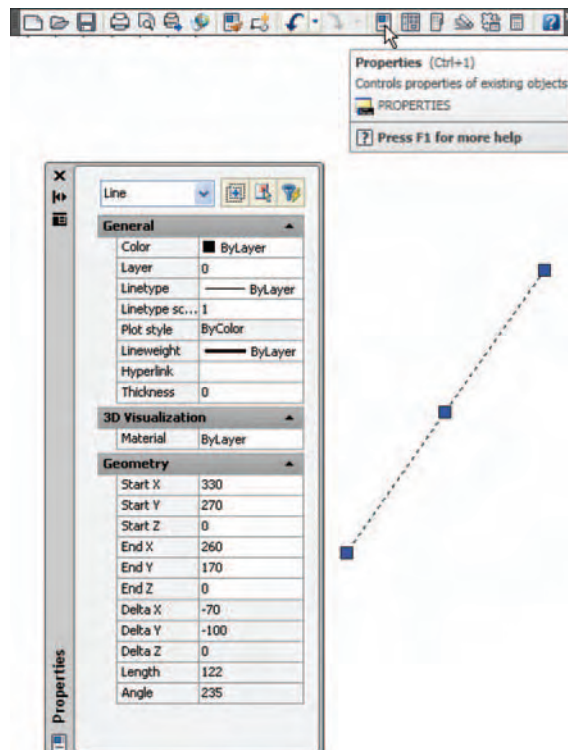

Fig. 1.12 The Properties palette
- **Properties** palette: Fig. 1.12 shows the **Properties** palette, called from the **Standard Annotation** toolbar, in which the general and geometrical features of a selected line are shown. The line can be changed by the *entering* of new figures in parts of the palette.